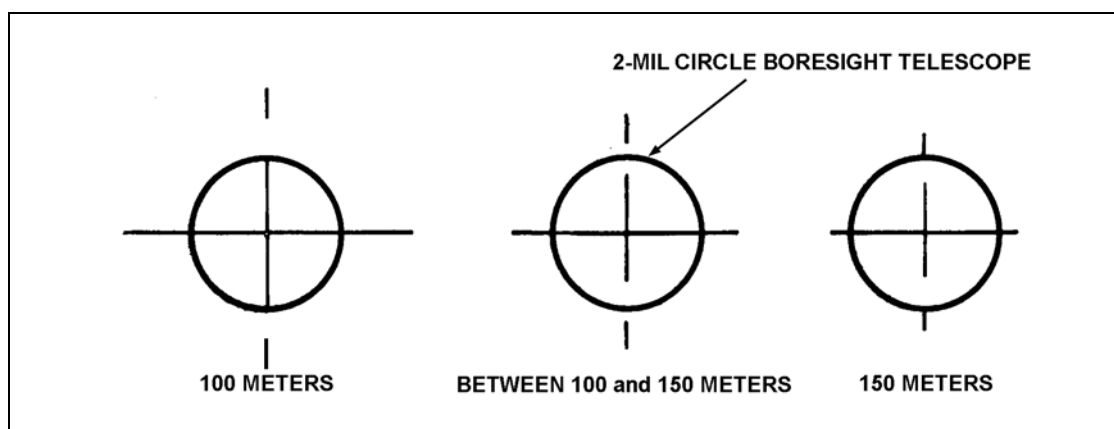

Figure B-43. Correct distance alignment for boresighting.
b. Determine direct-line distance when the panel is first placed in the motor pool. Insert a boresight kit into the 25-mm gun of a vehicle positioned on a direct line with the panel. Align the boresight reticle with the 25-mm cross on the panel. Use ranging gaps in the 25-mm cross to determine the panel's distance. Vehicles are at a correct distance if the 2-mil circle of the boresight reticle is on the edge, or in the gaps of the 25-mm cross. Figure B-43 shows examples of vehicles located at the correct distances for boresighting.